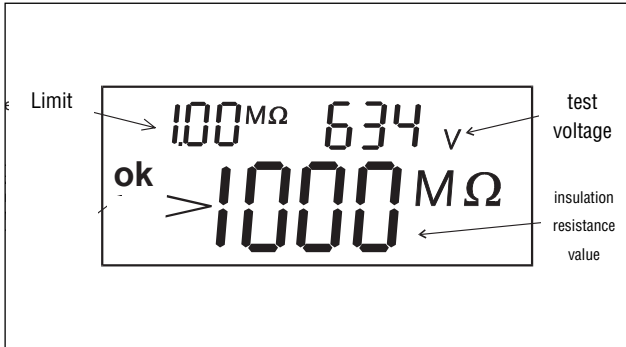

Fig. 6.14
- Press "START/STOP" at COMMANDER 2 and keep pressed until stabilisation of measurement result displayed. The COMMANDER 2 ACTIVE lamp is illuminated and indicates the active measurement. Release key, UUT is automatically discharged. The following measurement result is displayed (Fig.6.14):